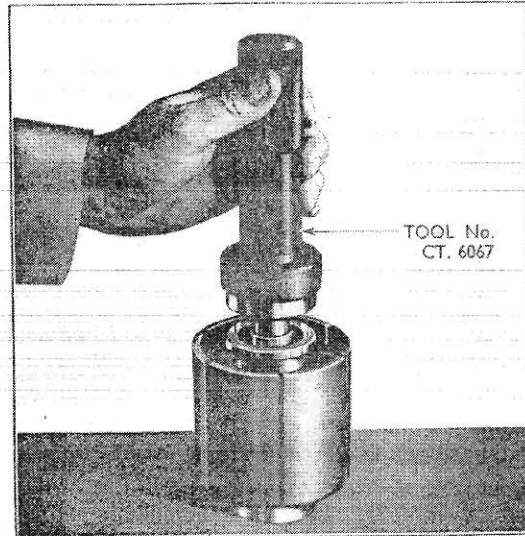

Fig. 8
2. Reassemble the rotor assembly if previously dismantled by fitting the cam rings on the rotor shaft, refit the bearings and drive on the front oil seal collar up to the bearing, using Tool No. CT.6067. (See Fig. 8) then refit the vanes.